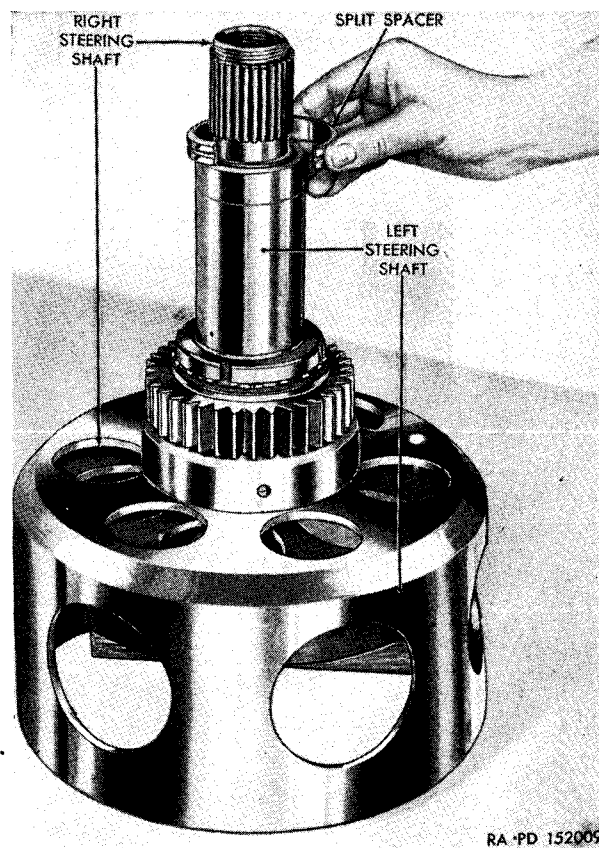
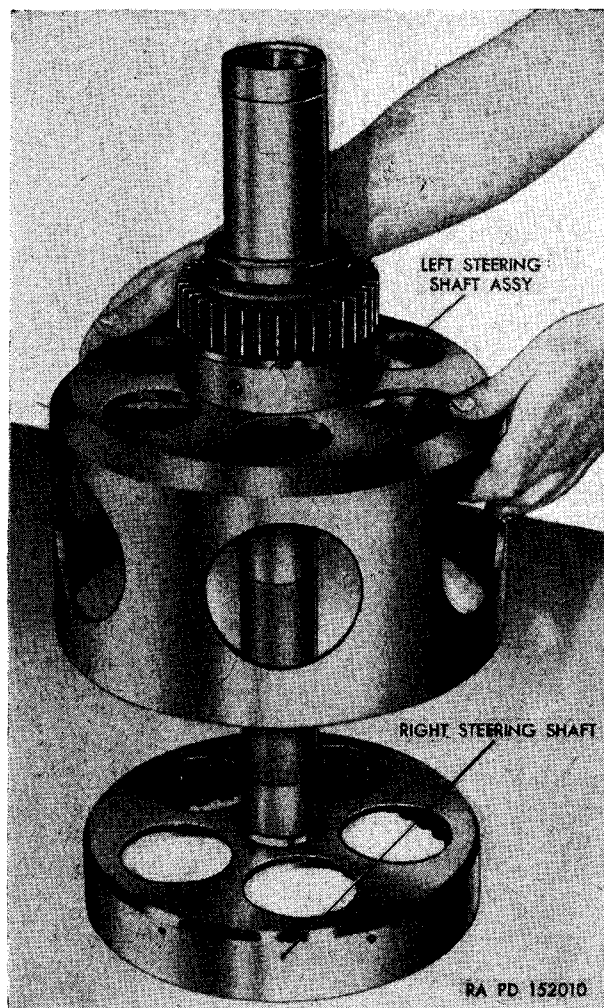
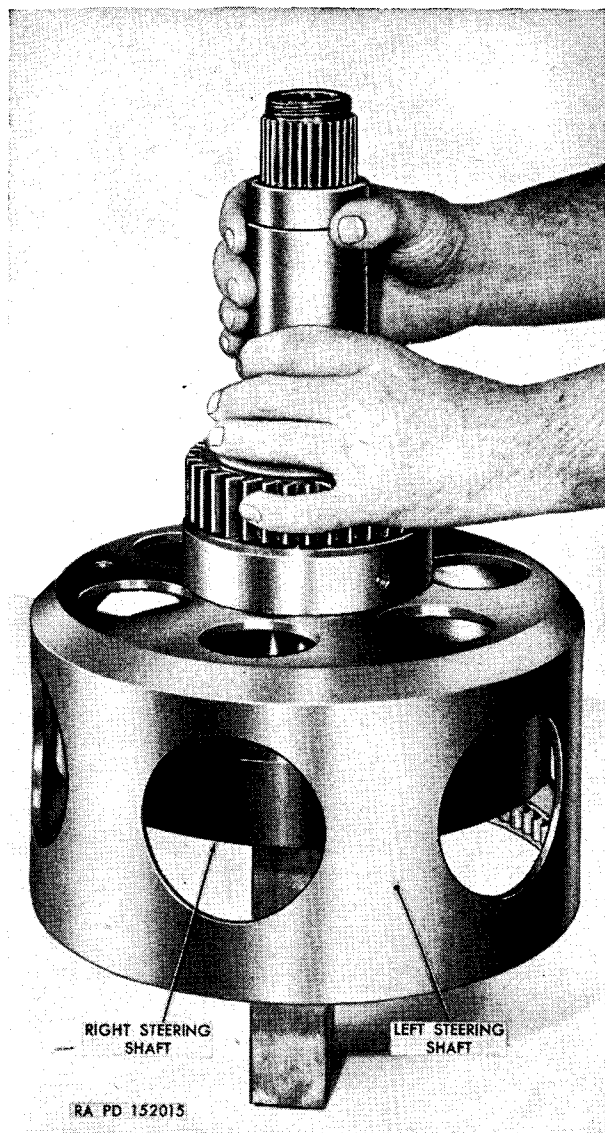
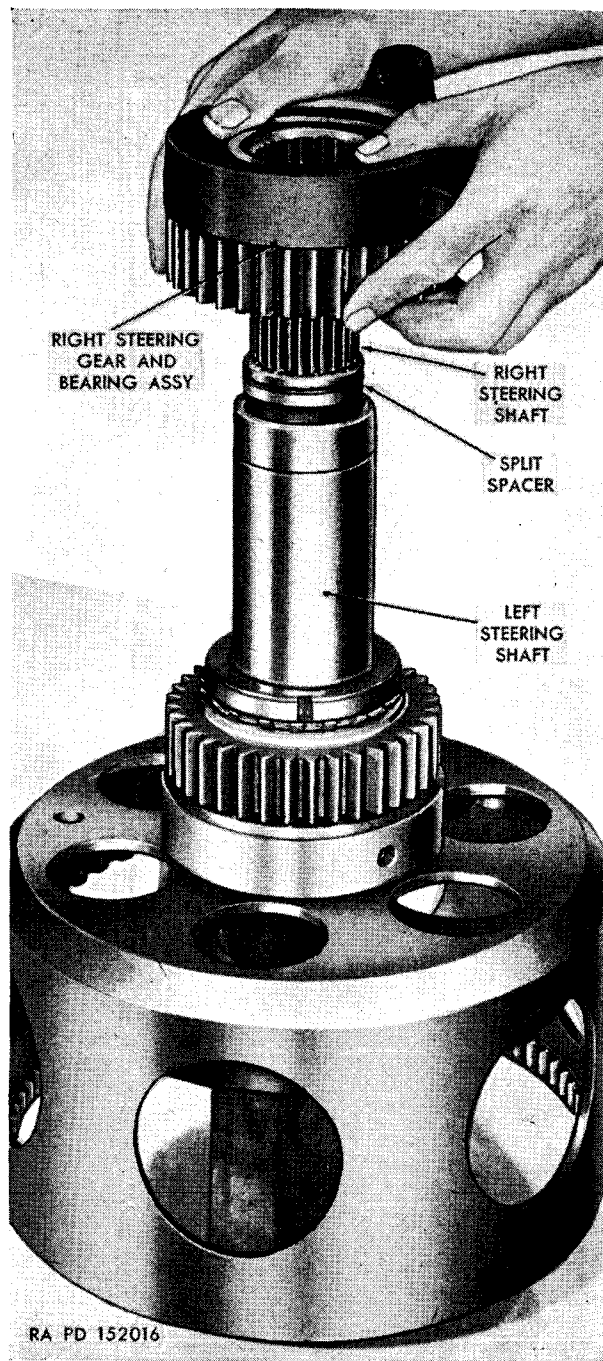

Figure 270. Removing or installing split-spacer.
Figure 271. Removing left steering shaft.
Figure 276. Installing left steering shaft.
Figure 277. Installing right steering-shaft gear and bearing assembly.
- (3) Remove the two halves of the split-spacer (fig. 270). Remove the left steering shaft from the right steering shaft (fig. 271).
- (10) Support the right steering shaft on wood blocks and install the left steering shaft assembly over the right steering shaft (fig. 276). Install the split spacer on the right steering shaft (fig. 270). Install the gear and bearing assembly on the right steering shaft (fig. 277). Install the splined spacer so that the lock screw hole in the spacer is aligned with the punch mark on the end of the shaft.
- (11) Install the lock nut, and using the spanner wrench (41-W-640-305), tighten the nut to 350 pound-feet. Torque further if necessary, to align the lock screw hole in the lock nut with the lock screw hole in the spacer. Install and tighten the lock screw and stake it to the lock nut.